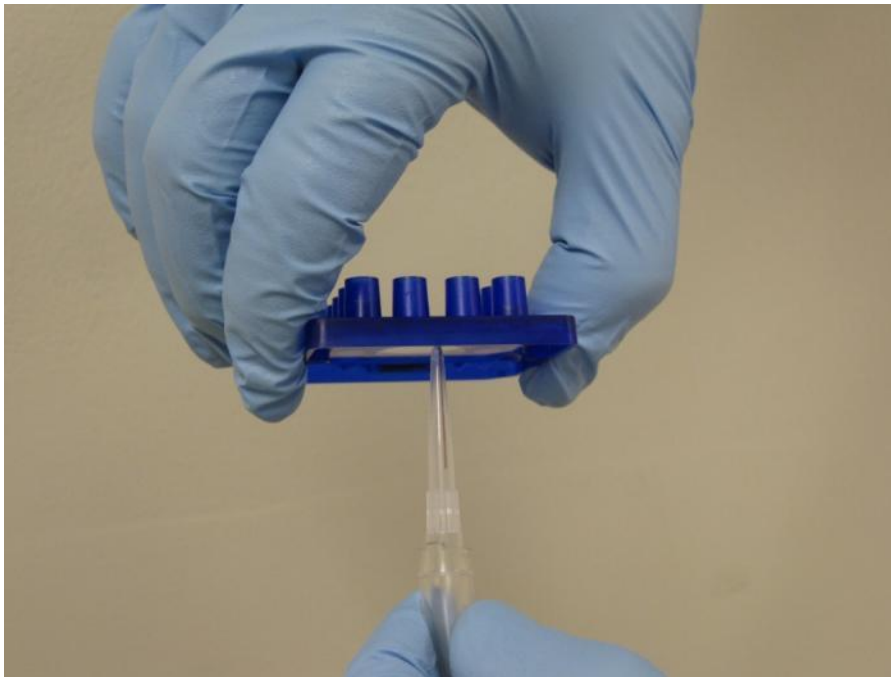

Figure 16. Removing an air bubble or clog by suctioning the sipper with a vacuum line.
- D) Remove the chip from the LabChip Dx. Ensure that the waste well contains at least ~100 μ L of fluid. If not, bring up the volume by adding molecular biology grade water to the waste well. To remove the air bubble or clog suction the sipper with a vacuum line, as shown in **Figure 16**, until a few droplets have flowed out the sipper. When suctioning the sipper be careful not to bend or break the sipper. To facilitate this, cut the tip of the vacuum line to widen the mouth. Afterward aspirate the fluid in well 1, and if needed, replenish the marker solution. Then rerun the chip.